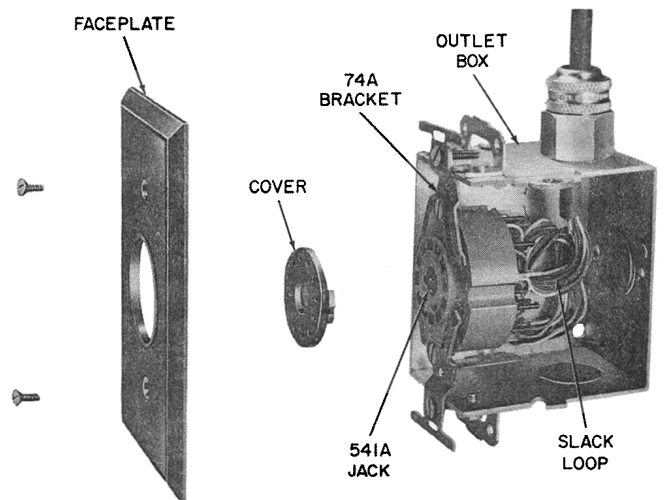

Fig. 16 — 547A Jack, Side View
2.15 The 547A jack (Fig. 16) consists of a 541A jack, 74A bracket and faceplate and is intended for flush mounting in an electrical outlet. Mounting screws are furnished.